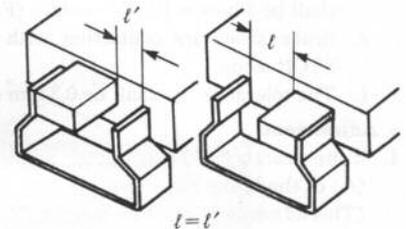

Fig. 12
2. When the slow lever is locked, make sure that the slide switch is turned ON, and is turned OFF when the slow lever is locked out. (When the switch is turned ON and OFF the width ( $l$ ) and ( $l'$ ) become the same, as shown in Fig. 12.)